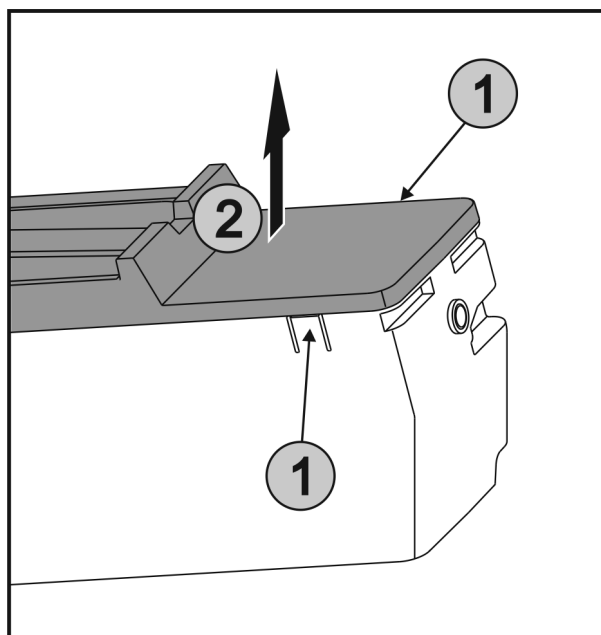

Fig. 56
- Press the lugs Fig. 56 (1) on both sides of the EasyTwist-Ice simultaneously and take off the cover Fig. 56 (2) upwards.